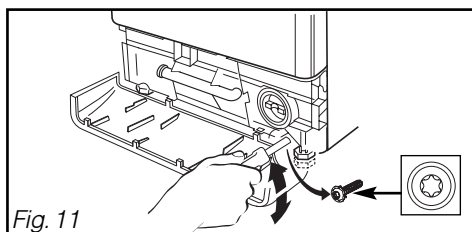

Fig. 11
– Unscrew the 2 screws used to block the feet using a TORX T20 screwdriver (Fig. 11).